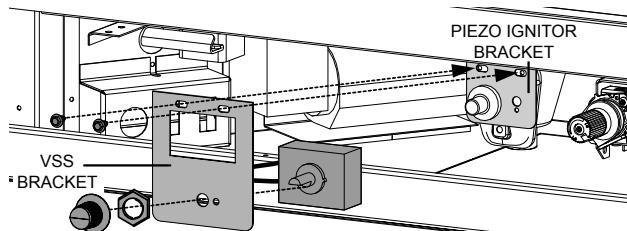

Fig. 3
8. The variable speed switch (VSS) will need to be disassembled to secure to the VSS bracket for installation. Place the VSS through the mounting bracket using the lock washer to secure it in place. Take the variable speed switch knob and install into position (**Fig. 3**).
9. To install the variable speed switch, the mounting bracket will first need to be installed. Remove the two screws securing the piezo ignitor switch bracket in place. Install the VSS mounting bracket to its position then reinstall the two previously removed screws (**Fig. 3**).